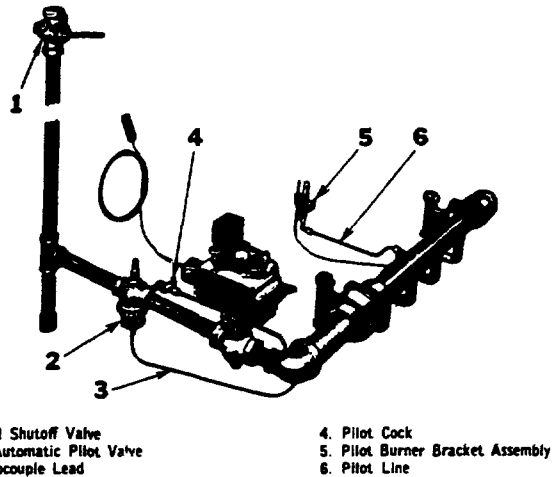

FIG. 18—Control Connections
1. Connect pilot line from throttling angle cock on BASO automatic pilot valve to union in line leading to pilot burner on burner No. 2. See Fig. 18.